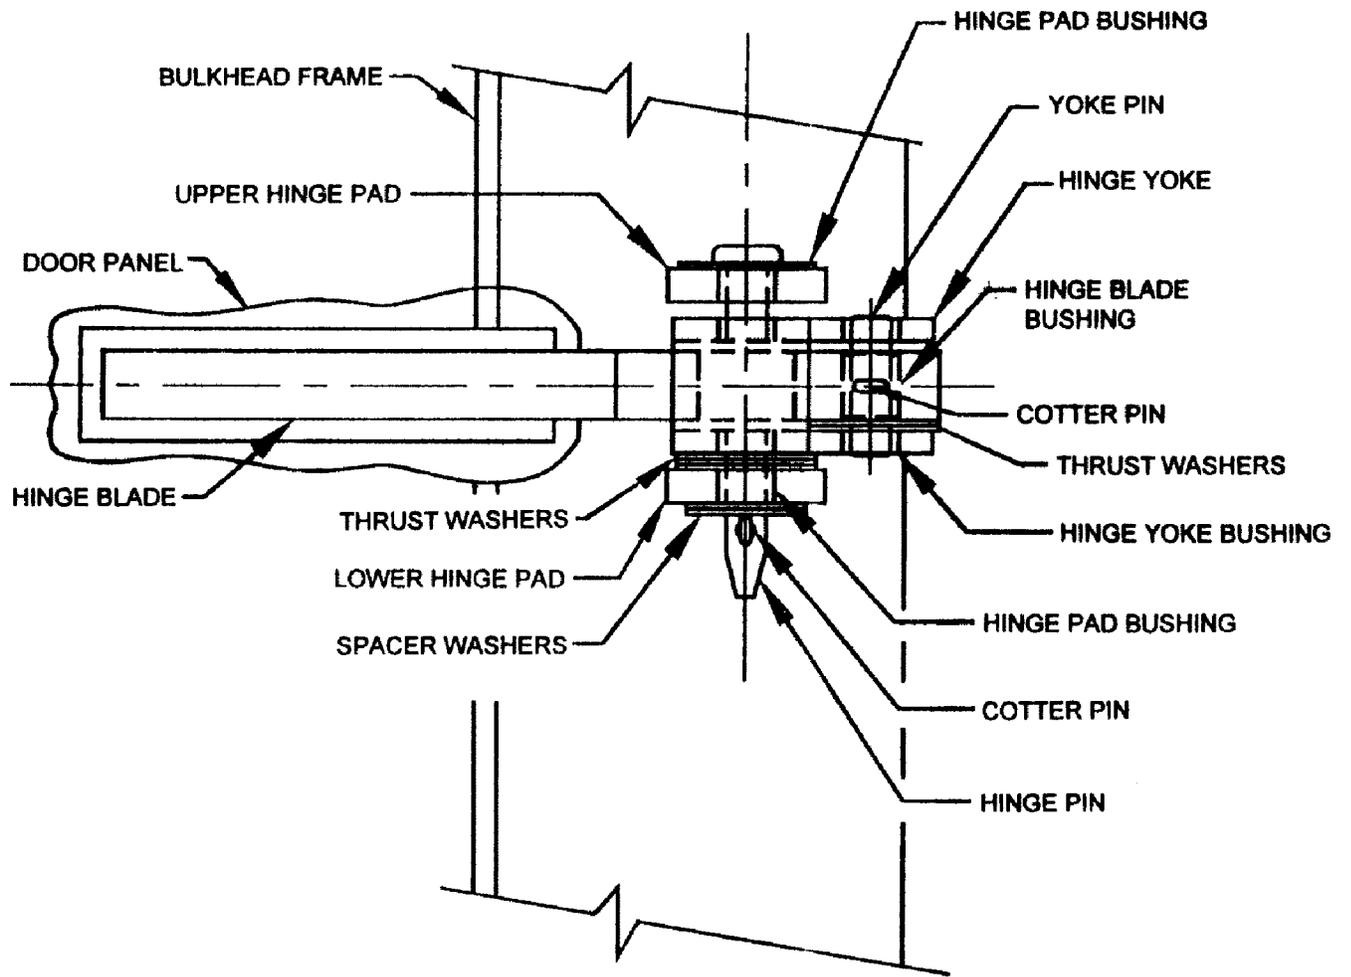

Figure 1-21. Quick-Acting Watertight Door Hinge Assembly Modified by MACHALT 167-31006 (ECP-518)
- d. MACHALT 167-31006 (ECP-518) removes all replaceable components in the hinge assemblies and replaces with upgraded pins, thrust washers, and self-lubricated bushings on quick-acting watertight doors in high traffic areas. (See figure 1-21.)